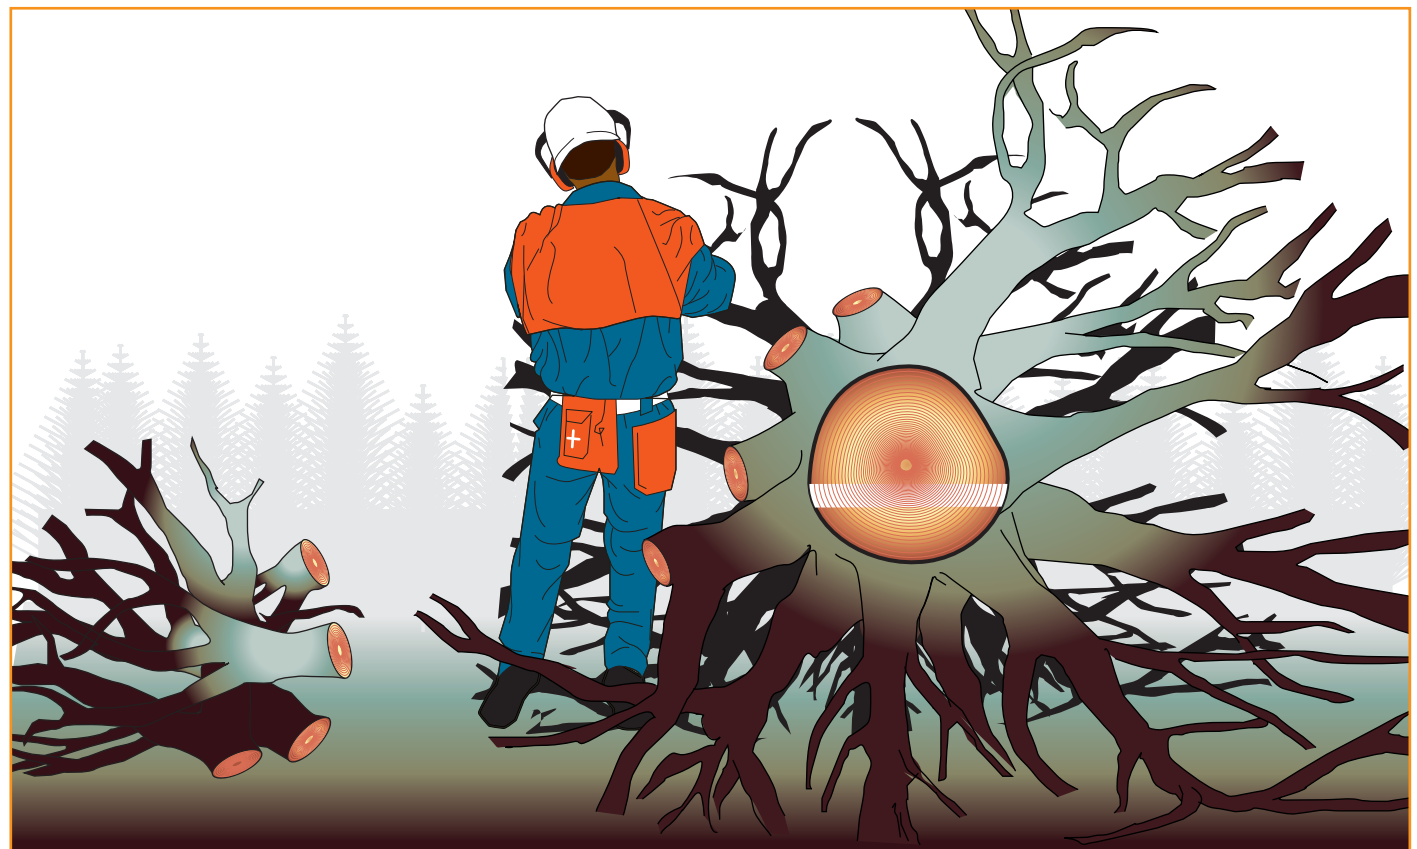

Figure 1: Retention of supporting branches
- ❑ 12 Cut away all the smaller branch wood to shoulder height, retaining the main supporting branches and the stem (see *Figure 1*).